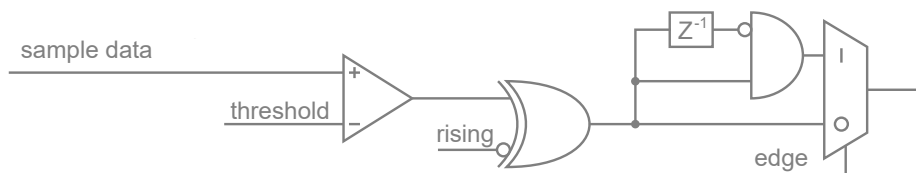

Figure 2.14: The digital inputs TDC0, TDC1, TDC2, TDC3, TRG, and GATE have simpler trigger units.
The trigger unit input logic is summarized, as well, in Figure 2.14.
TRG and GATE are configured analogously to the TDC inputs (see Section 1.3.4 and Figure 2.14), where indices 4 (5) and `NDIGO6G12_TRIGGER_TRG` (`NDIGO6G12_TRIGGER_GATE`) correspond to input TRG (GATE).
- The four TDC and the two digital control inputs (Figure 2.14)